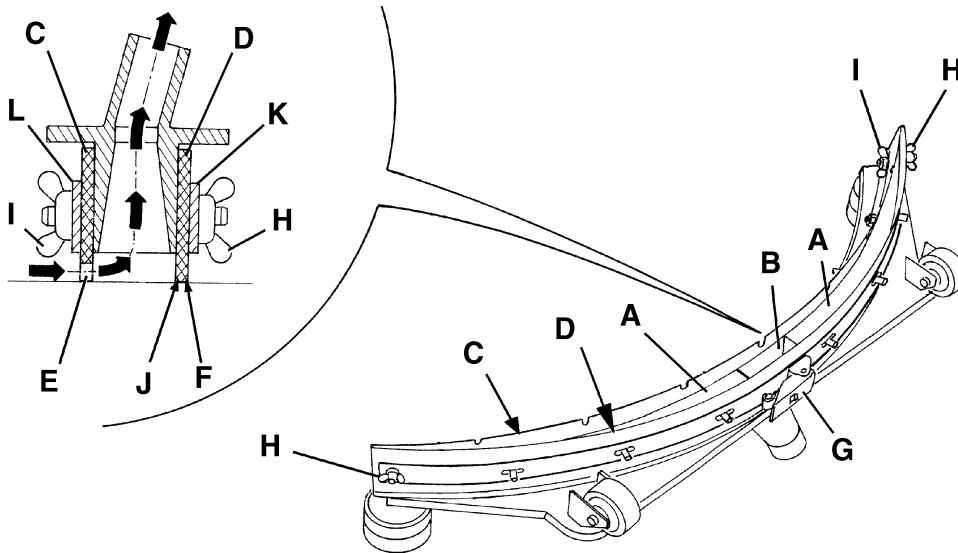
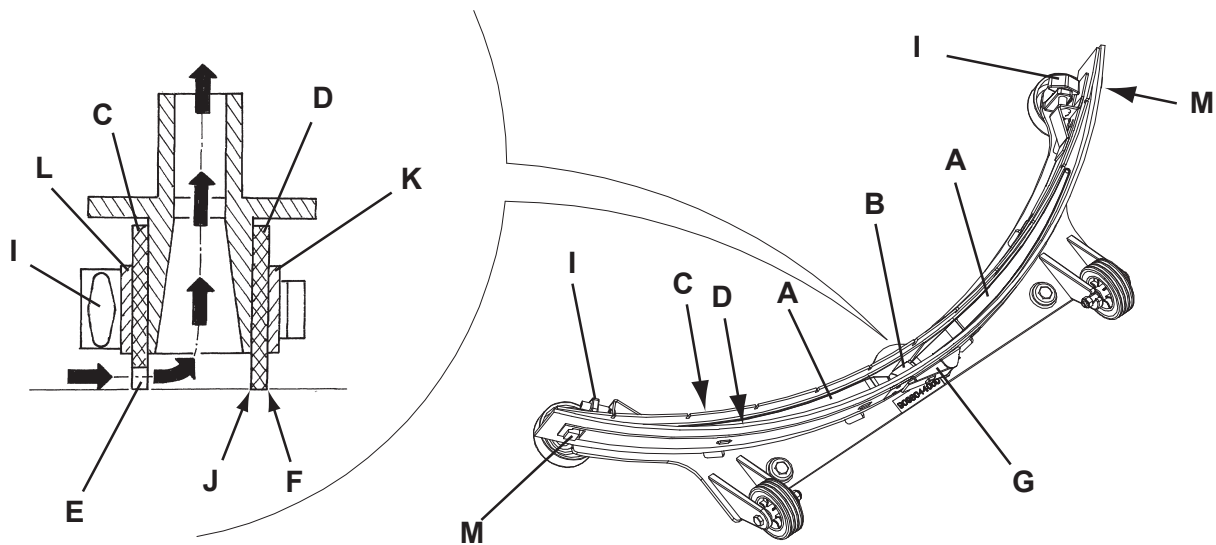

Figure 6
Figure 7
3. Lower the squeegee (25) with the lever (10).
4. Loosen the handwheels (26) and remove the squeegee (25).
5. Disconnect the vacuum hose (15) from the squeegee.
6. Clean the steel squeegee (Fig. 6) or the aluminium squeegee (Fig. 7). Clean the compartments (A, Fig. 6 or 7) and the hole (B) especially. Check the front blade (C) and the rear blade (D) for integrity, cuts and tears; if necessary replace them (see the procedure in the following paragraph).
1. Clean the steel squeegee (Fig. 6) or the aluminium squeegee (Fig. 7), according to the procedure shown in the previous paragraph.
2. Check that the edges (E, Fig. 6 or 7) of the front blade (C) and the edges (F) of the rear blade (D) lay down on the same level, along their length; otherwise adjust their height according to the following procedure:
- Release the tie rod (G, Fig. 6 or 7) and loosen the wing nuts (H, Fig. 6), or disengage the fasteners (M, Fig. 7) and adjust the rear blade (D, Fig. 6 or 7), then tighten the wing nuts, or engage the fasteners, and then engage the tie rod.
- Loosen the handwheels (I) and adjust the front blade (C, Fig. 6 or 7); then tighten the handwheels.
3. Check the front blade (C, Fig. 6 or 7) and rear blade (D) for integrity, cuts and tears; if necessary replace them according to the following procedure. Check the front corner (J) of the rear blade for wear; if necessary, overturn the blade to replace the worn corner with an integral one. If the other corners are worn too, replace the blade according to the following procedure:
- Release the tie rod (G), remove the wing nuts (H) or disengage the fasteners (M), remove the retaining strip (K), then replace/overturn the rear blade (D).